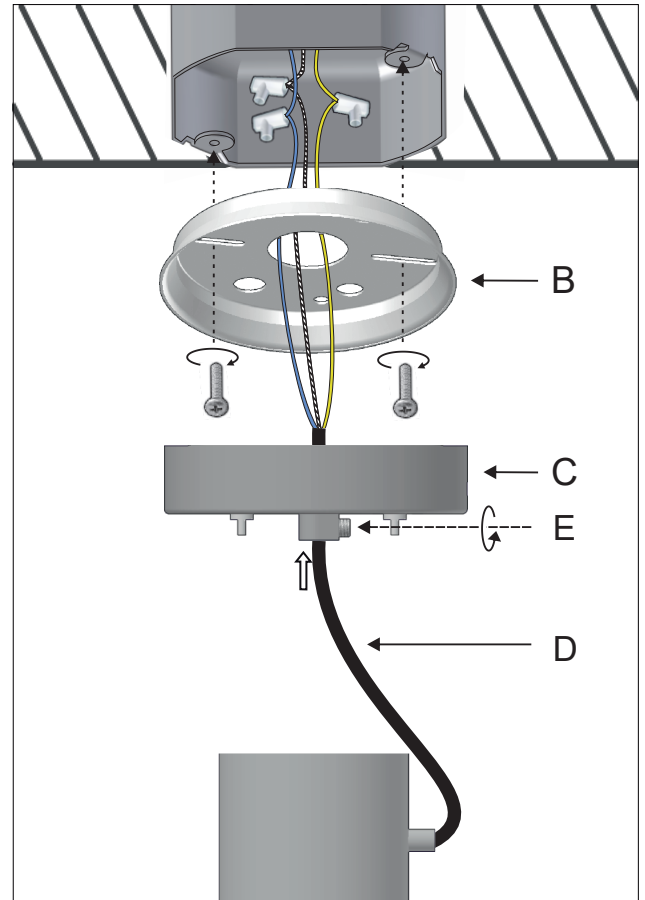

Figure 2
- 2 - Run the lamp electrical cable (D) through the canopy (C) and the mounting bracket (B). Make the electrical connections inside the junction box. Attach the mounting bracket to the junction box and secure the electrical cable with the cable holder (E). Figure 2.